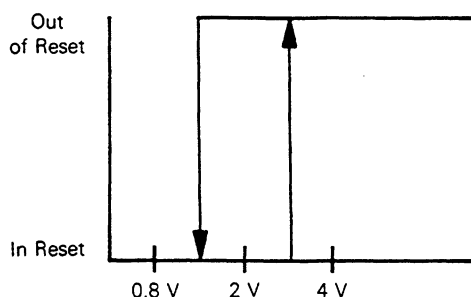

Figure 7-1. Typical Reset Schmitt Trigger Hysteresis
The MCU can be reset three ways: (1) by initial power-up, (2) by the external reset input (RESET) and (3) by an optional, internal, low-voltage detect circuit (not available on the MC68705P3 EPROM version). The RESET input consists mainly of a Schmitt trigger that senses the RESET line logic level. A typical reset Schmitt trigger hysteresis curve is shown in Figure 7-1. The Schmitt trigger provides an internal reset voltage if it senses a logical zero on the RESET pin.